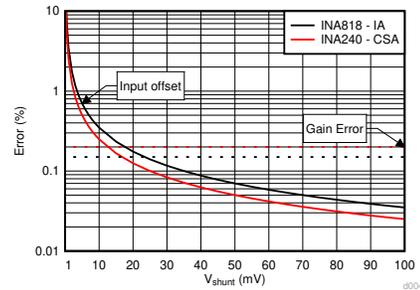

Figure 3. Percent Error due to Maximum Input Offset Voltage and Maximum Gain Error Versus Shunt Resistor Voltage
Input offset voltage (V_{os}) is important when dealing with small voltage drops across the shunt resistor (V_{shunt}). A small V_{shunt} is typical since shunt resistors must be kept as small as possible to limit load disturbance and power dissipation. At large V_{shunt} values, the impact of V_{os} decreases and gain error (GE), which does not change with V_{shunt} , becomes the dominant source of error as illustrated in Figure 3. Essentially I_{bias} , V_{os} , and GE will determine the lower bound of current measurement that is achievable by the device within the target accuracy. Similar to I_{bias} , V_{os} and GE will also drift with temperature so it is important to consider the operating conditions. Consideration for common-mode rejection, power supply rejection, and noise are also important for accurate results. A more thorough analysis would involve the root sum square of all error sources. For a comprehensive error analysis on IAs, see the